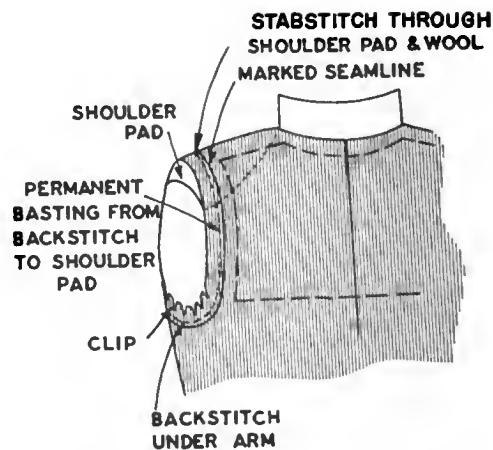

Fig. 251. Working on the armseye.
J. With permanent basting, baste around the entire armseye seam, attaching the lining seam to the wool, just outside of the seam, close to the stitching. Under the arms, the backstitch may be used. At the shoulder you will need to stab-stitch through the reinforcement and pads (Fig. 251).